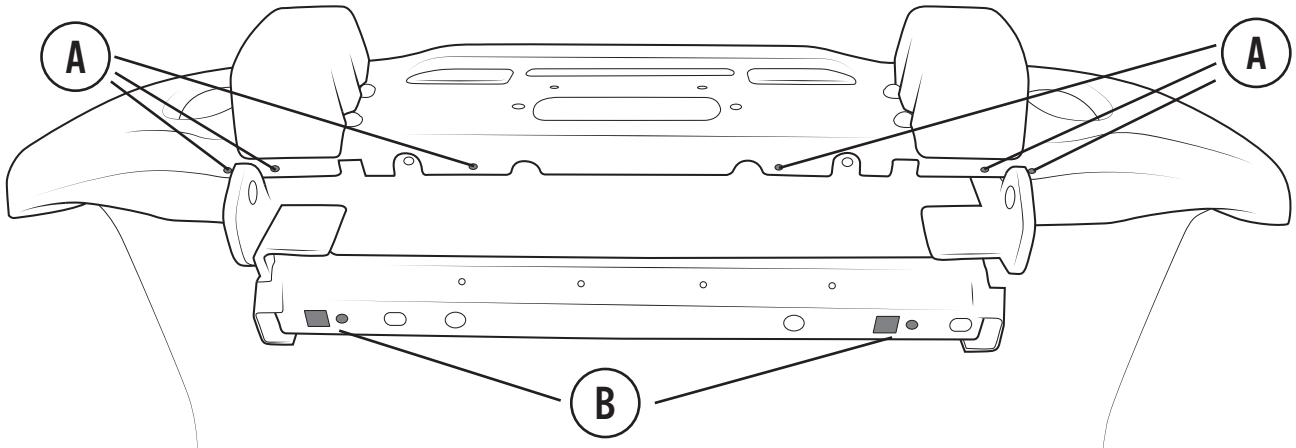

Figure 1
1. Install the six M8 U-nuts onto the Bumper edge (Fig 1-A) aligning with the six holes in the Bumper.
3. Install the two M10 U-nuts into the square cut-outs on the compatibility beam (Fig 1-B), aligning with the adjacent round holes. If the square cut-outs are not present on your vehicle you may skip this step. Continue to step #8.